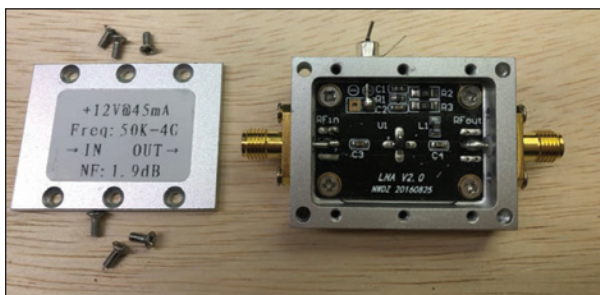

Figure 3: RF signal amplifier
A radio frequency (RF) signal amplifier is required for radiated emissions measurements. Figure 3 shows one low-cost example. This particular unit uses a monolithic microwave integrated circuit (MMIC) amplifier and is useful from 50 kHz to at least 2 GHz, Gain = 20-30 dB, and only costs about \$30. For a device under test (DUT) with very low emission limits, two amplifiers in series may be required.